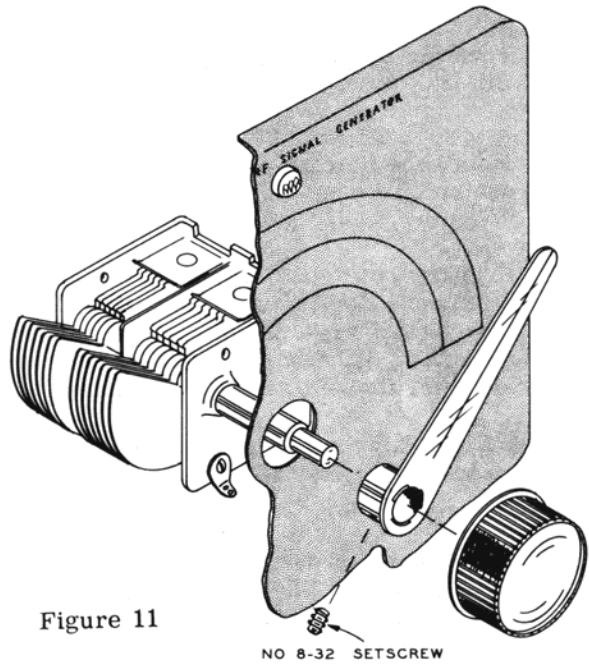

Figure 11
- () Refer to Figure 11 and install the dial pointer, using an 8-32 setscrew. Make sure that the pointer lines up with the end marking at the low end of the dial scale when the tuning gang is at its maximum counterclockwise rotation. Tighten the setscrew securely.